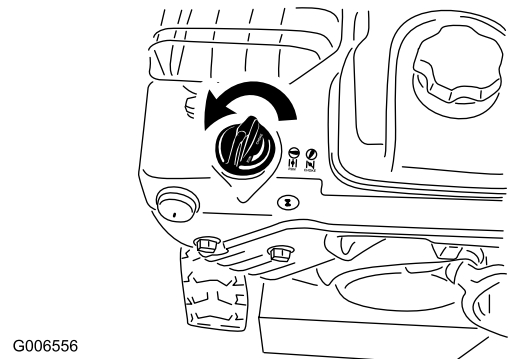

Figure 30
5. Rotate the choke to the Choke position (Figure 30).